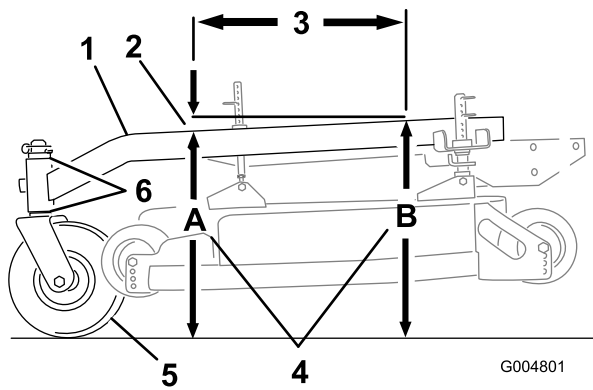

Figure 54
The carrier frame must have a pitch between 1/8 inch (3 mm) to 3/8 inch (9 mm) over the length of 24 inches (61 cm) on the carrier frame (Figure 54).
1. Measure out 24 inches (61 cm) on the carrier frame (Figure 54).
2. Measure carrier frame height at location A (Figure 54).
3. Measure carrier frame height at location B (Figure 54).
4. The height at location A must be a 1/4-3/8 inch (6 mm -10 mm) lower than location B (Figure 54).
5. If the carrier frame is not correct, move caster spacers to make it a 1/4-3/8 inch (6 -10 mm) pitch (Figure 54). Move spacers from top or bottom to make the correct pitch.